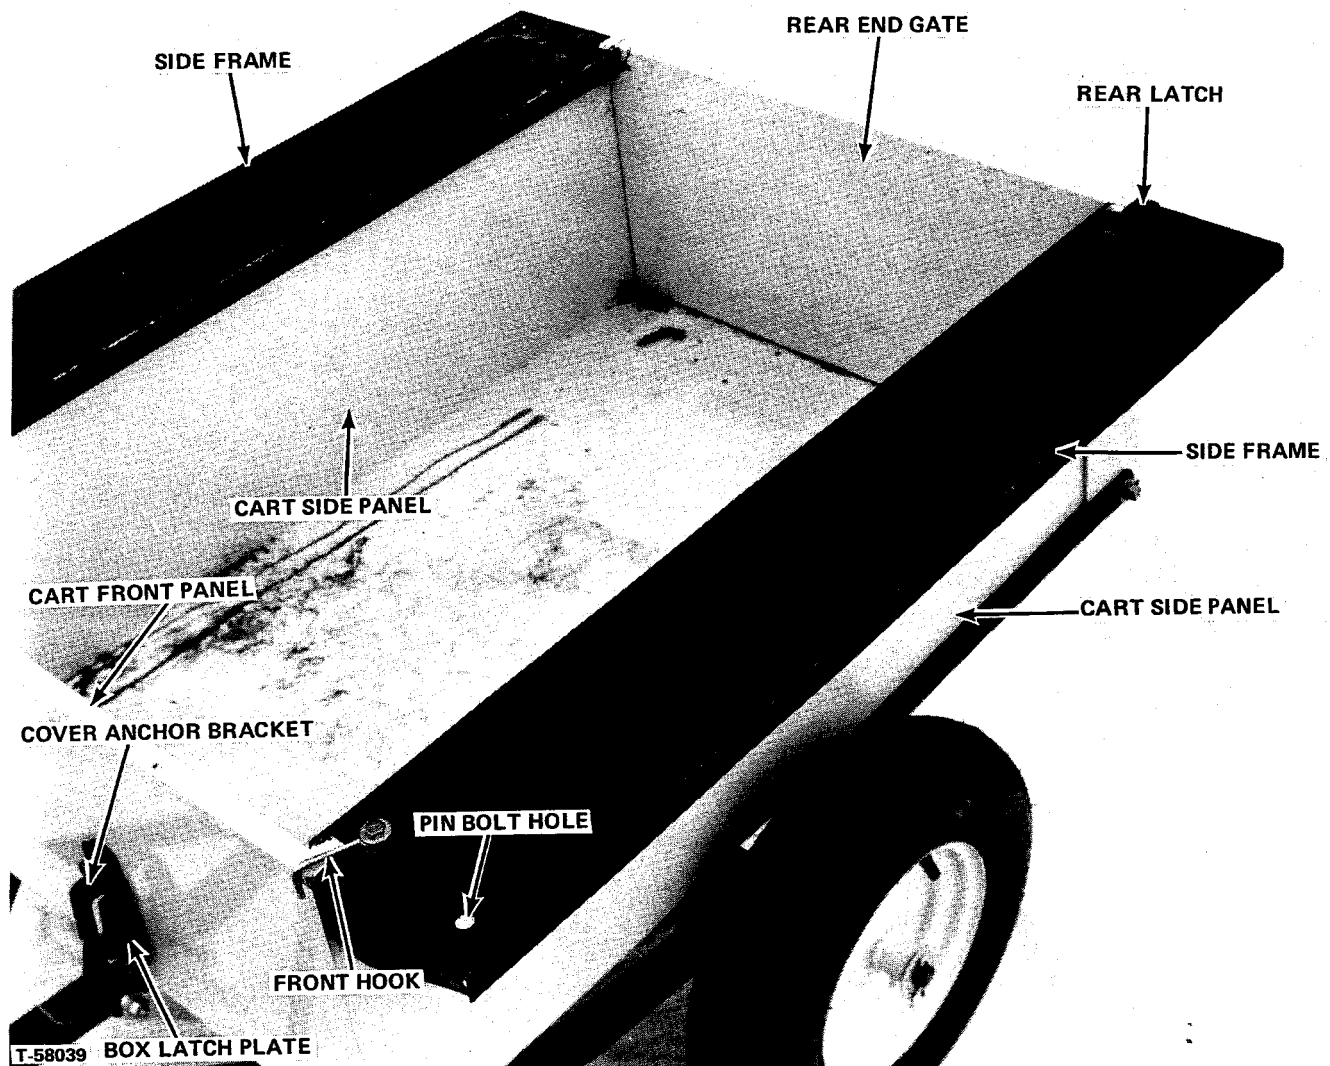
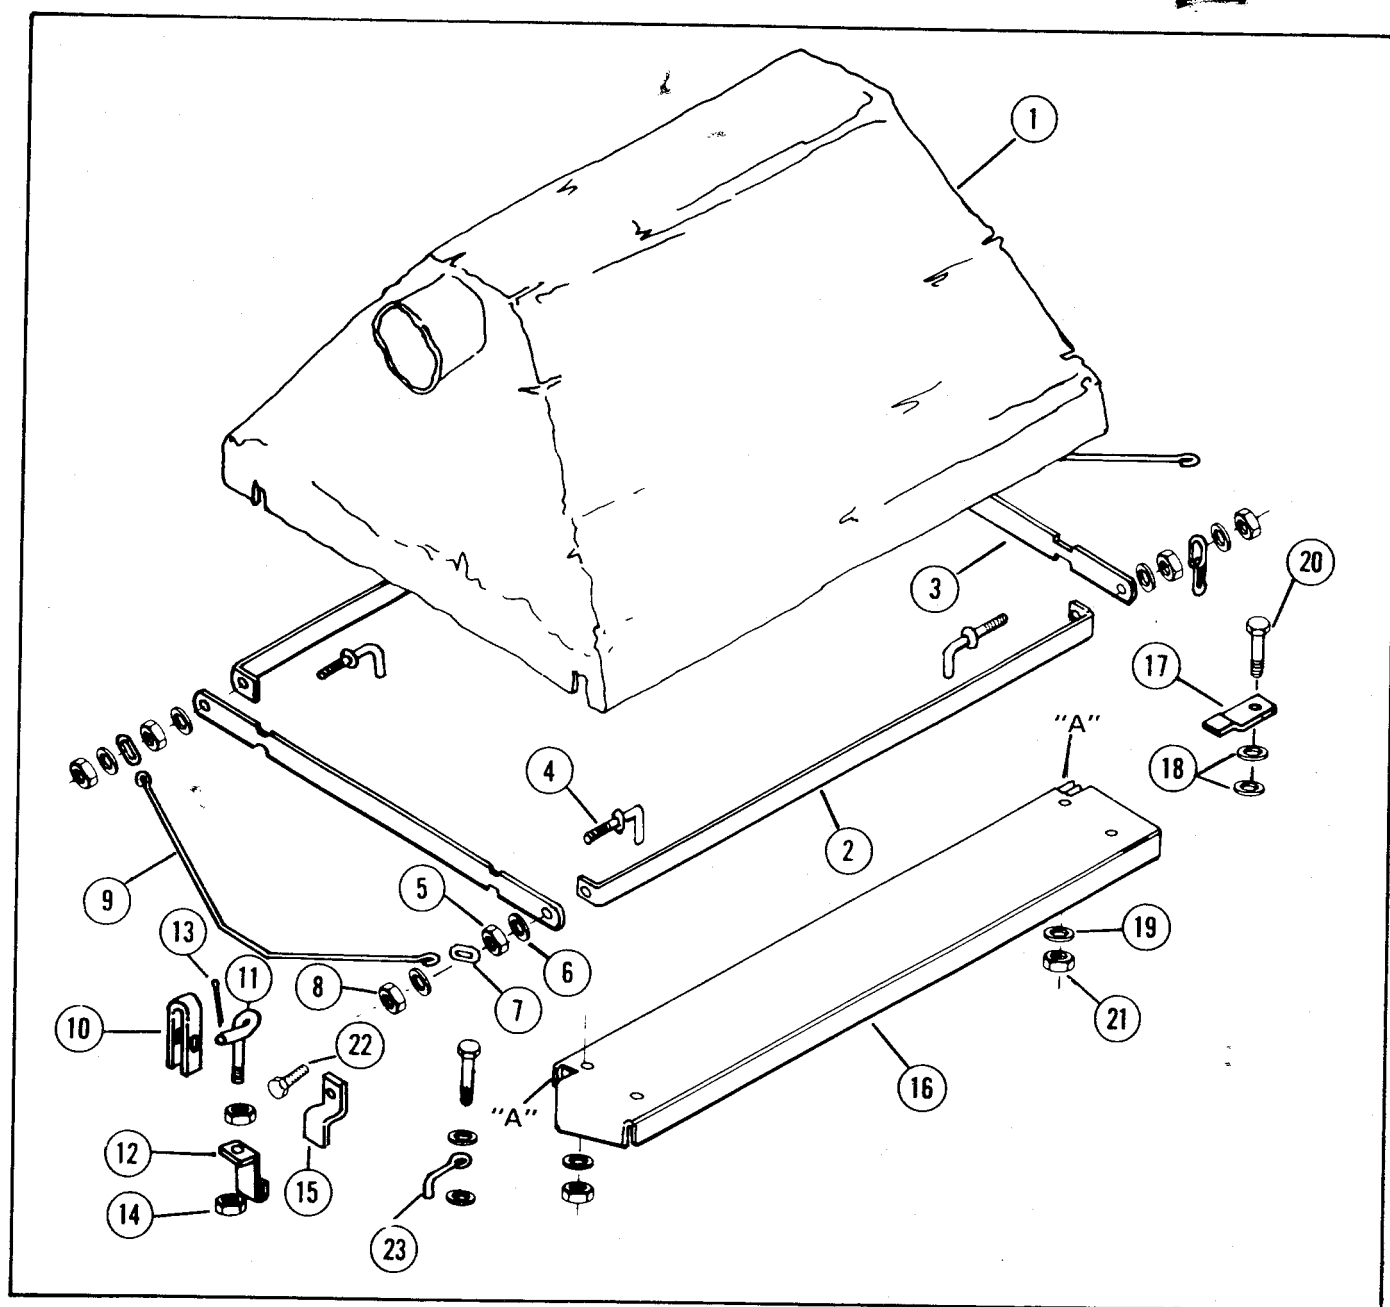

FIGURE 14
FIGURE 15
1. (See Figure 14). Remove rear end gate from cart. (NOTE: Item numbers used below refer to "Item Reference Number" in Figure 15.)
2. (See Figures 14 and 15). Starting at rear of cart align the folded lip edge "A" of Item 16, side frame, with the inner vertical leg of the top edge of the cart side panels. Slide the side frame forward interlocking the vertical leg of the cart side panel top inside the folded edge "A" of the side frame. Slide side frame fully forward until it touches the cart front panel. Install the other side frame in same manner on the other cart side panel.
3. Install Item 23, front hook, with Item 20, two of item 19, items 18 and 21 in the front inner corner
4. Install item 17, rear latch with item 20, two of item 18 and items 19 and 21 as shown in Figures 14 and 15. Reinstall the rear end gate. Tighten locknut, 21, on rear latch capscrews, 20, just tight enough that latches can be turned to overlap the top corners of the end gate and hold it in place, but can be turned away by hand for end gate removal.
5. Remove the top capscrew holding the box latch plate to the cart front panel and install the cover anchor bracket, item 15, using longer capscrew, item 22. (Figures 14 and 15)
7. Insert the side bar and end bar reinforcements in the cart cover with the side bar bent ends pointing inward (See Figures 15, 16 and 17). Insert the pin bolts through the holes in the side and the end bars with the smooth end of pin down through pin bolt hole in each outer corner of the side frame. Place flat washers and hex nuts on threaded portion of pin bolt and tighten nuts (See Figure 17).
8. (See Figures 15 and 16). Insert bail, 9 through the slotted holes in lever, 10, attach one link to hook on each end of bail. Place the links over ends of pin bolts on front side of cart and hold in place with flat washers, 6 and locknuts, 8.